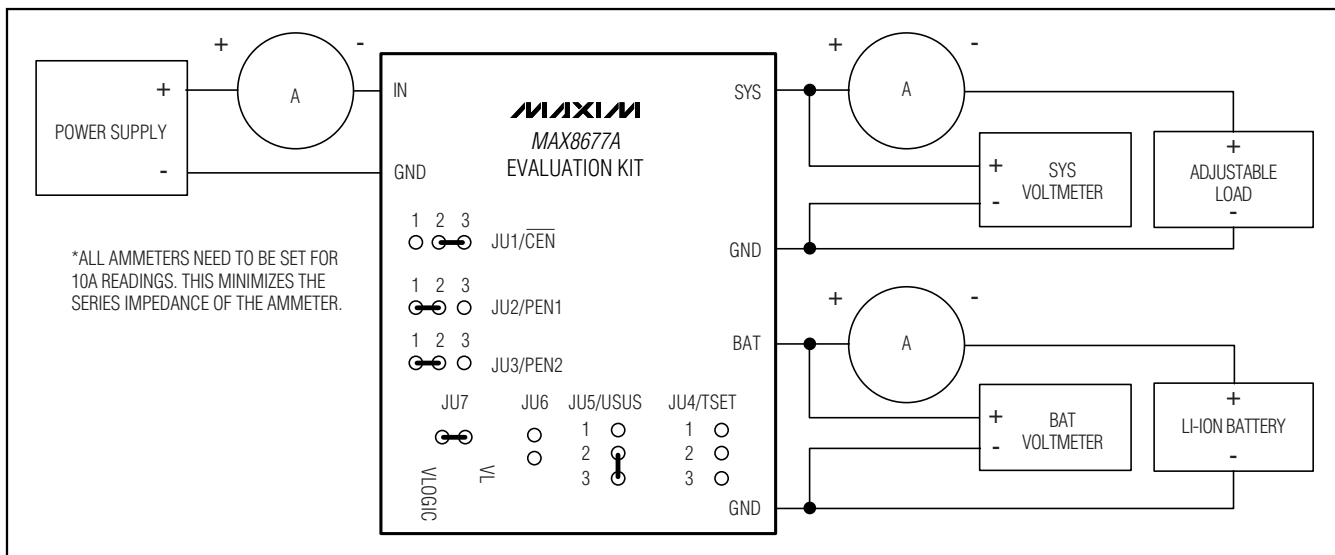

Figure 1. Test Procedure Setup
- 3) Connect the EV kit to the power supply, battery, adjustable load, and meter, as shown in Figure 1.
- 4) Ensure that the EV kit has jumper settings configured as shown in Table 1, and also shown in Figure 1.